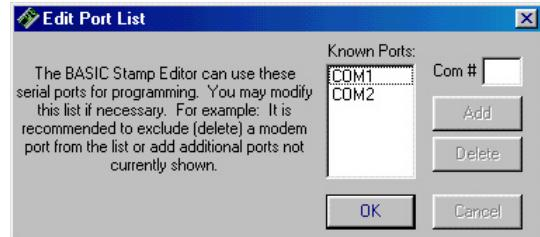

Figure 1.22: Edit Port List window.
- If this is your first time running the software, the Edit Port List similar to Figure 1.22 will appear. If you know the number of the COM port you're using and it doesn't appear in the list, enter the number in the Com # field, then click the Add button. If you know that a certain COM port listed in the Known Ports list is connected to a modem, click its entry in the list, then select Delete. Otherwise, just click OK.